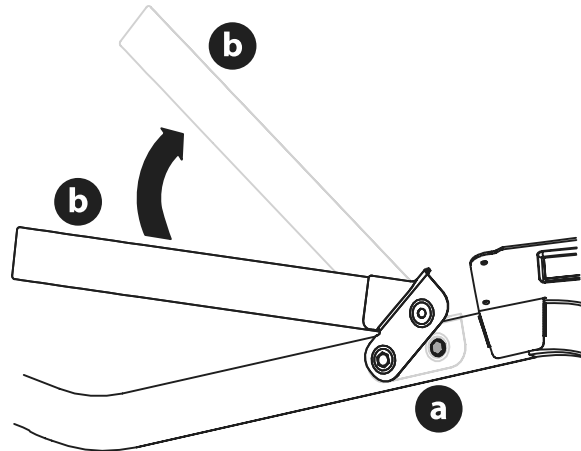

Figure 4
1. Remove the two hex washer screws (a) partially installed on the frame (Figure 4).
2. Rotate the upper hoop (b) into position (Figure 4).